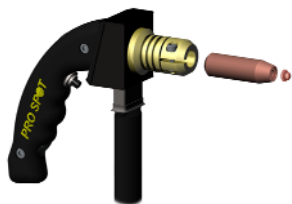

Figure 6.21
3. Fit Single-Sided gun with the magnetic rivet adapter (fig. 6.21).
4. Insert rivet into the adapter (fig. 6.21).